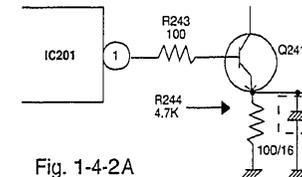

Fig. 1-4-2A
- (1) Set VR (R0403) fully counterclockwise.
(2) Set Q241 EMITTER to GND through 100uF/16V capacitor as shown in figure 1-4-2A below.